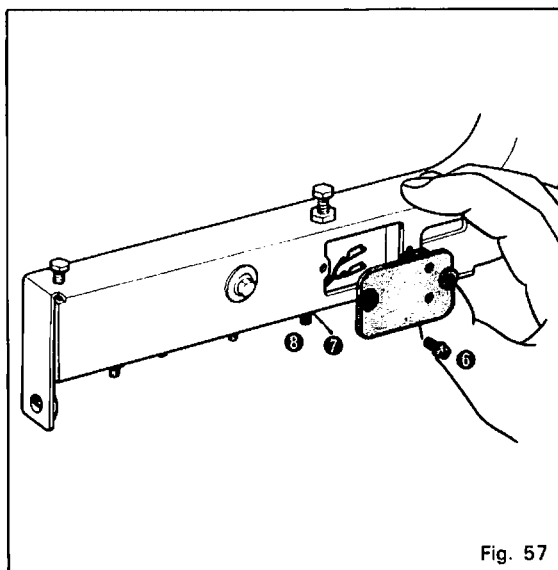

Fig. 57
- d. Detatch the treadle pedal and turn bolt ⑧ about 120° and fasten it with nut ⑦. (Fig. 57)